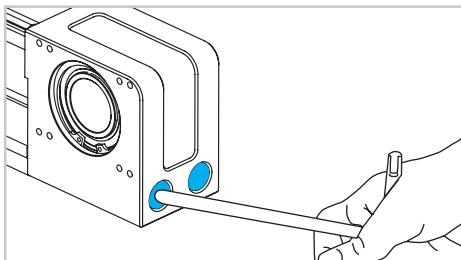

Fig. 7
- 4) For sizes 30 and 50 unscrew the two screws on the head extremity (fig. 7).